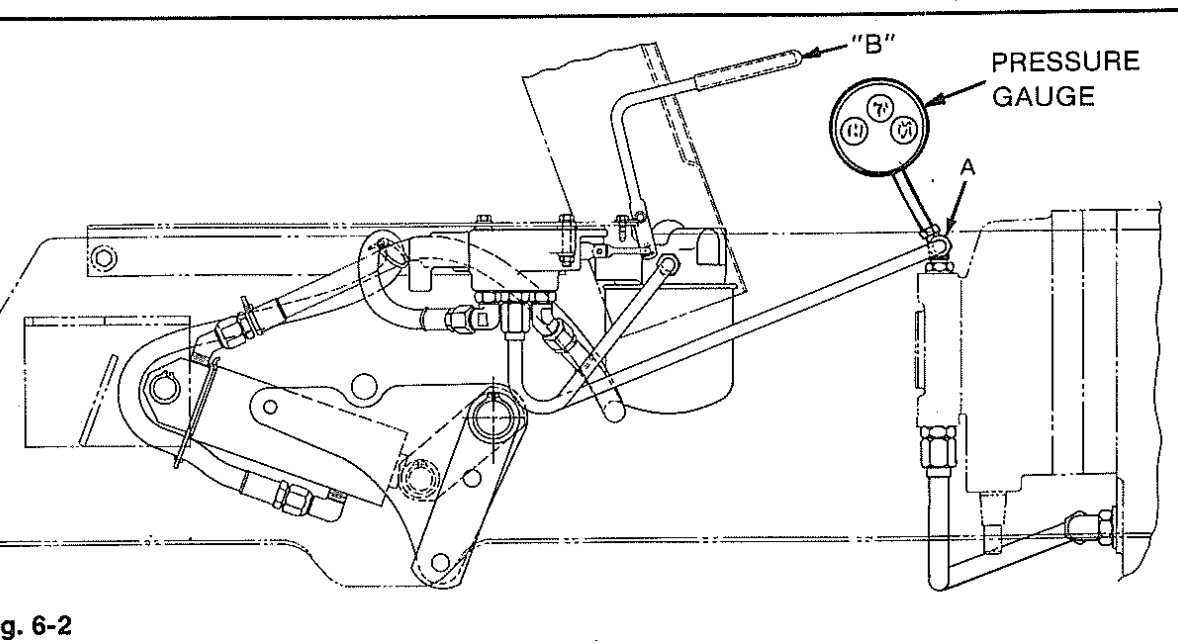

Fig. 6-2
4. The hydrostatic pressure can be checked using a pressure gauge which reads at least 1000 P.S.I. hydrostatic Pressure Gauge Kit 1737386 is available at the factory. To check the hydrostatic pressure, install a tee between hydro and tube to the hydraulic lift valve at point (A) Figure 6-2. Connect pressure gauge to tee. Start the engine and run for 5-10 minutes. At full RPM the pressure reading should be 140 P.S.I. $\pm$ 20 (964 kPa). If pressure is below 120 P.S.I., hydrostatic charge pump may have excessive wear. Repair per Eaton II manual.